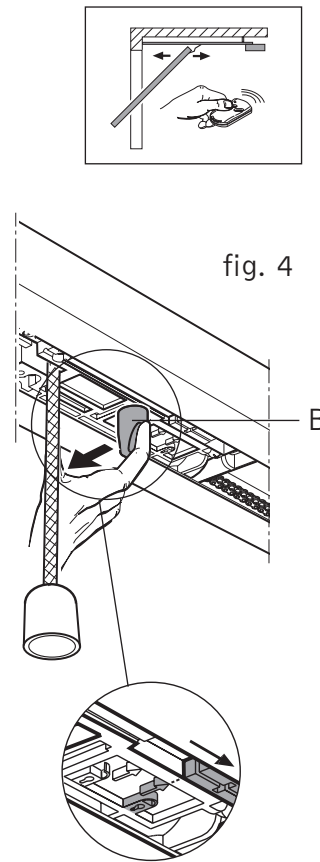

fig. 4
- b. Move red slider "b" in direction of arrow to re-engage carriage at next movement. Start operator. See fig. 4.